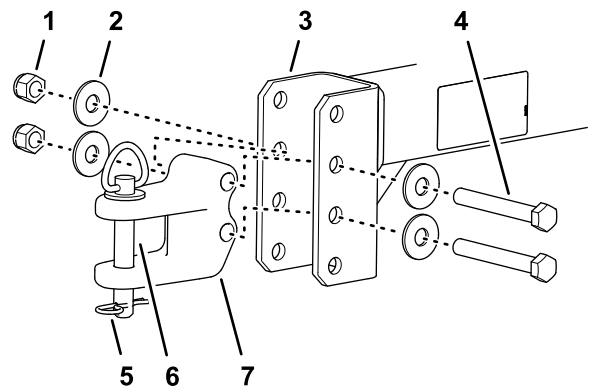

Figure 6
1. Adjust the position of the hitch clevis to the tongue so that the tongue is level with the drawbar of the traction unit (Figure 6).
2. Assemble the hitch clevis to the tongue with the 2 capscrews, 4 washers, and 2 locknuts (Figure 6).
4. Secure the hitch to the drawbar with the hitch pin and hairpin (Figure 6).